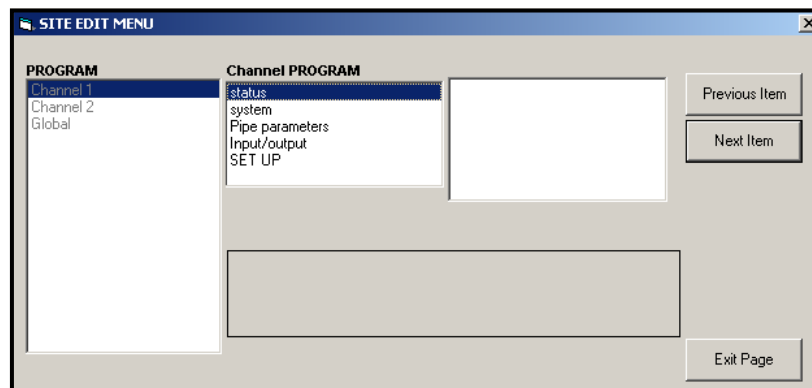

Figure 41: *Site Edit Menu* Window
3. To enter data into the user program, double-click on the *Site Edit Menu*. The window appears similar to *Figure 41* below.
4. To enter the Channel 1, Channel 2, or Global menu, highlight and double-click on the desired menu in the left pane. For example, clicking on Channel 1 in *Figure 41* above opens the list of options shown in the center pane.
PanaView returns to the Channel PROGRAM menu (see *Figure 41* on page 78). Proceed to the System option.
- If you are not using MASS FLOW, PanaView returns to the Channel PROGRAM window shown in *Figure 41* on page 78. Proceed to the Pipe option.
PanaView returns to the Channel PROGRAM window shown in *Figure 41* on page 78. Proceed to the Pipe option on the next page.